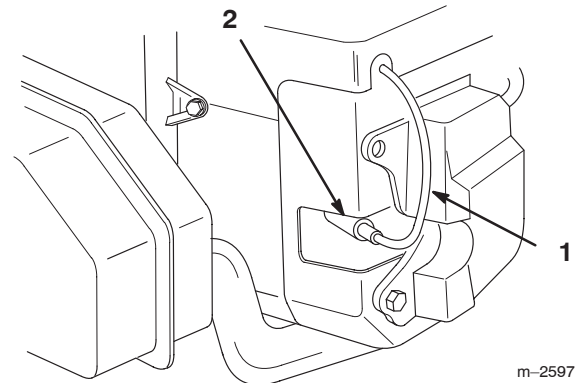

Figure 22
2. Pull the wire(s) off the spark plug(s) (Figure 22). Now clean around the spark plug(s) to prevent dirt from falling into the engine and potentially causing damage.
3. Push the wire(s) onto the spark plug(s) (Figure 22).